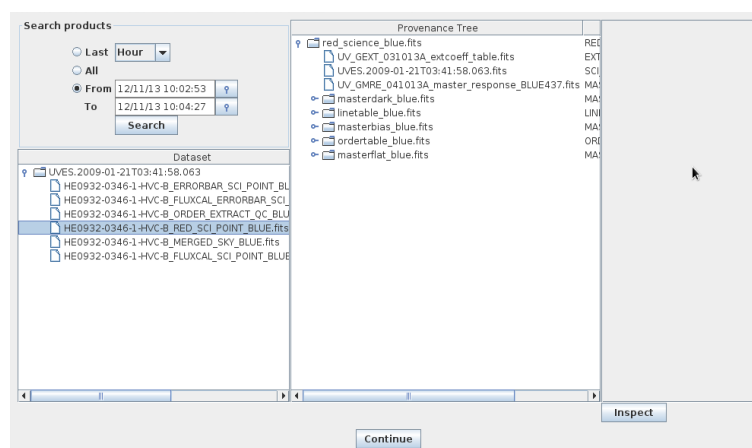

Figure 4.5: The Provenance Explorer shows all datasets reduced in previous executions together with the full reduction chain for all the pipeline products.
10. When the reduction of the current DataSet finishes, a pop-up window called *Provenance Explorer* will appear showing the datasets which have been so far reduced together with the list of final products. This actor allows the user to inspect the final data products, as well as to search and inspect the input data used to create any of the products of the workflow. Figure 4.5 shows the Provenance Explorer window.